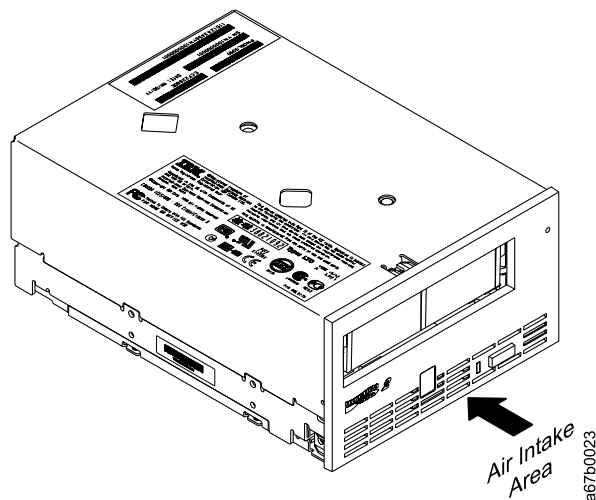

Figure 4. Measuring the temperature of the operating environment. The temperature is measured at the front of the bezel, near the air intake area.
3. Measured in front of the bezel, near the air intake area (refer to Figure 4 on page 16).
Acclimation time is required if the temperature of the drive when unpacked is different than the temperature of its operating environment (measured at the front of the bezel near the air intake area; see Figure 4). The recommended acclimation time is 4 hours after the drive has been unpacked or 1 hour after any condensation that you can see has evaporated, whichever is greater. When acclimatizing the drive, apply the following measures: